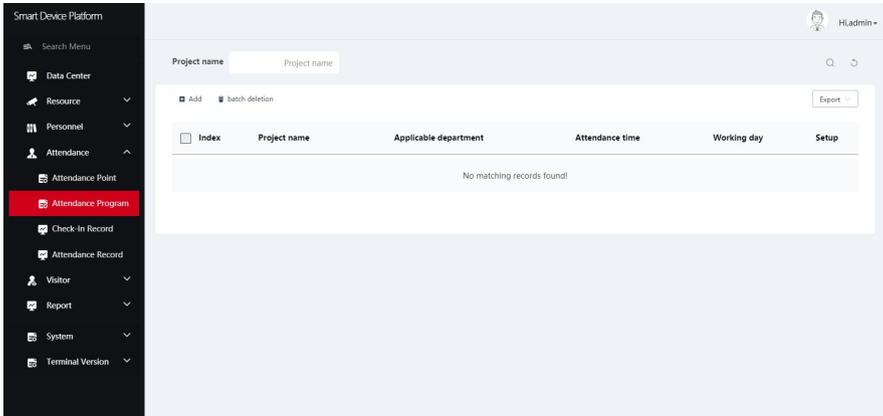

Figure 5-91
Step 1: Click "Attendance Management→ Attendance Program" on the smart terminal platform interface to enter the attendance program setting interface, as shown in Figure 5-91.